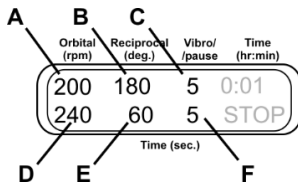
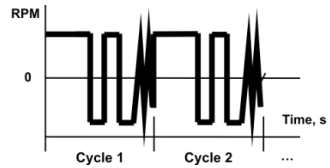

Fig. 7.
Fig. 8.
- 6.9.2. **Orbital + Reciprocal + Vibro motion.** Set the speed (fig. 7/A, 20–250 rpm) and time (fig. 7/D, 1–250 s) of Orbital motion. Set the amplitude (fig. 7/B, 0–360°) and time (fig. 7/E, 1–250 s) for Reciprocal motion. It is performed at the same speed as the Orbital motion (fig. 8). Set the amplitude (fig. 7/C, 0–5°) and time (fig. 7/F, 1–5 s) for Vibro motion.